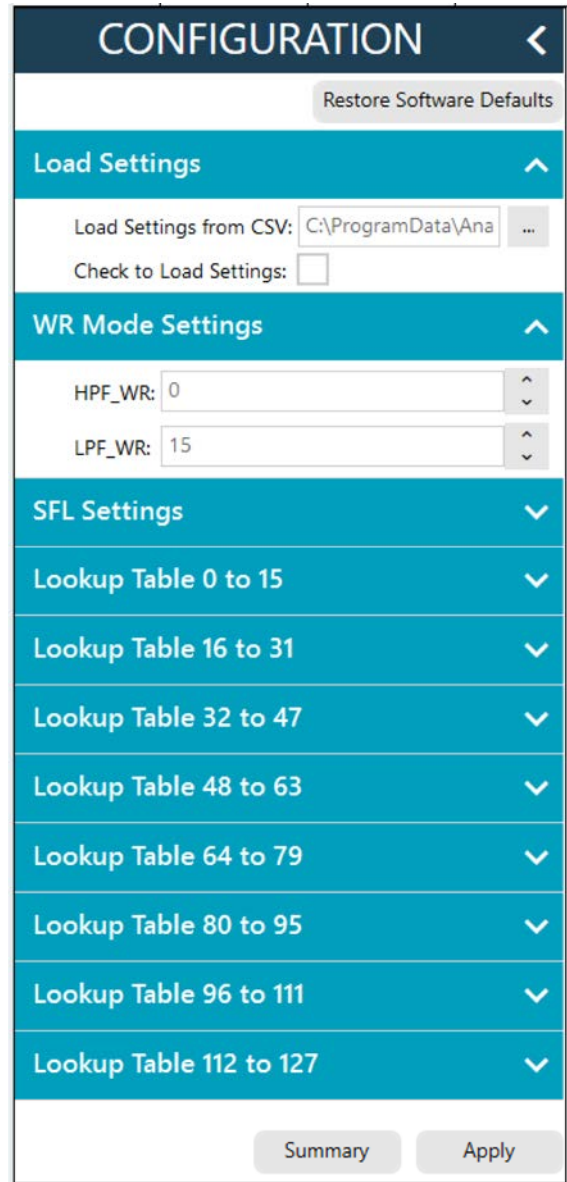

Figure 9. ADMV8913 CONFIGURATION Section
8. Use the **CONFIGURATION** section (see Figure 9) in the ACE software to initialize the chip. By default, the ADMV8913\_Register\_Load\_1.csv file is loaded into this section. Click **Apply** to send the default settings to the chip and to allow the main diagram user controls to become editable.
3. Click the ... button next to **Load Settings from CSV** to select which CSV file to load (see Figure 9).